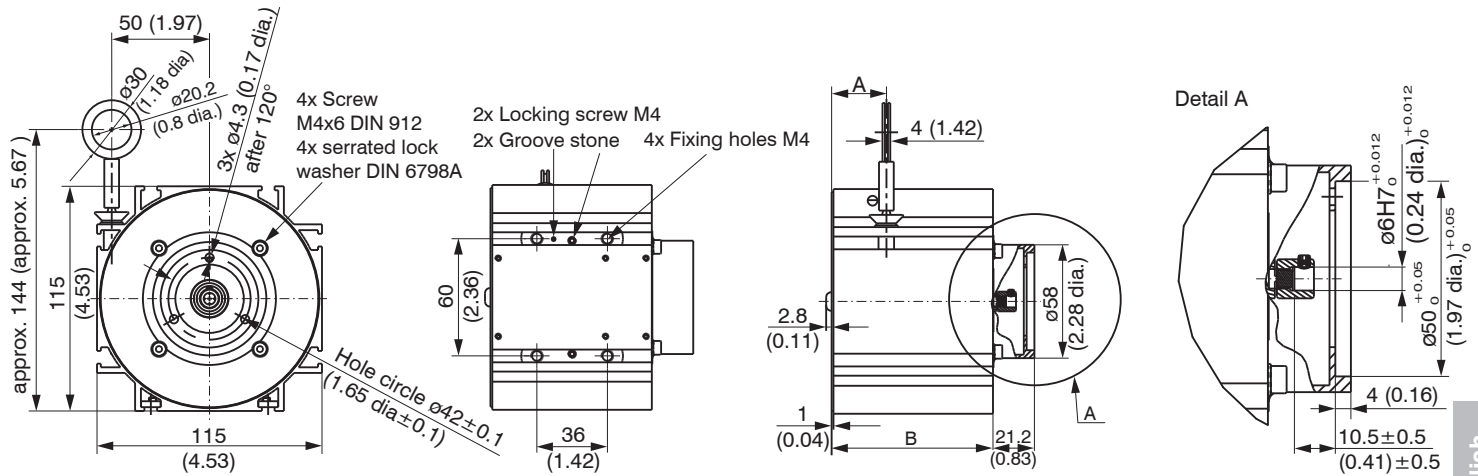

Fig. 4 WDS-P115-M, dimensions in mm (inches), not to scale
- Series P200: 4x M8 screws DIN 912 and 4 groove stones, see Fig. 4.